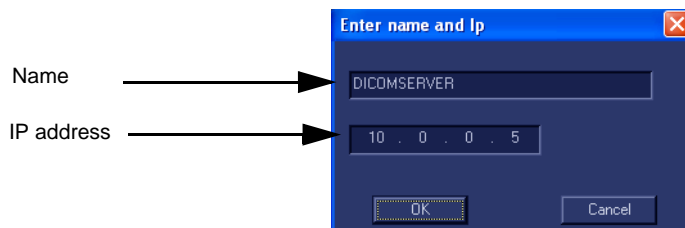

Figure 3-56 Edit Name and/or IP address
- c.) Edit the name and/or the IP address of the server, see Figure 3-56.